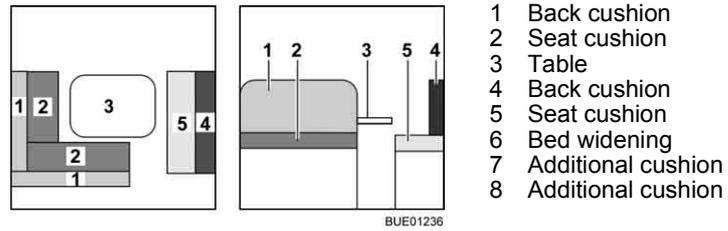

Fig. 94 Prior to conversion
- Convert the table (Fig. 94,3) to a bed foundation (see section 6.11).
- Remove the back cushions (Fig. 94,1) of the L-shaped bench and put them aside.
- Remove the back cushion (Fig. 94,4) of the divan and lay it aside.